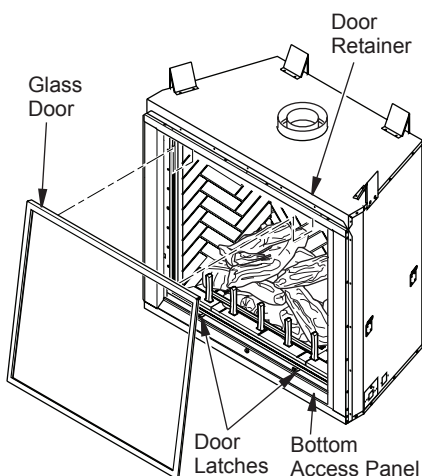

Figure 24 - Removing/Replacing Door
4. Tilt open glass door 45° from the bottom of firebox and lift up to release door from firebox top retainer (see Figure 24).
1. Position door frame in front of firebox opening with bottom of door tilted away from firebox (see Figure 24).